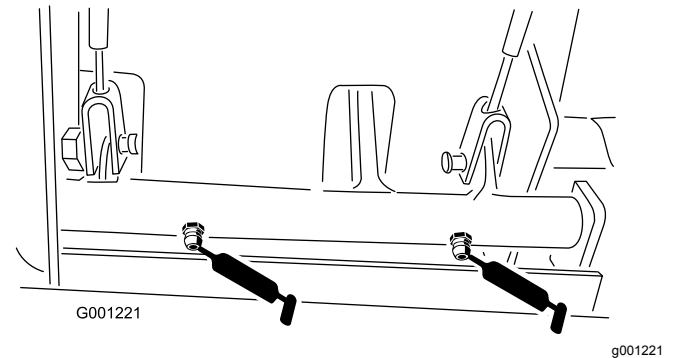

Figure 36
- Brake pivot bushings (Figure 36)
- Brake cables (drive wheel and brake pedal ends) (Figure 36)